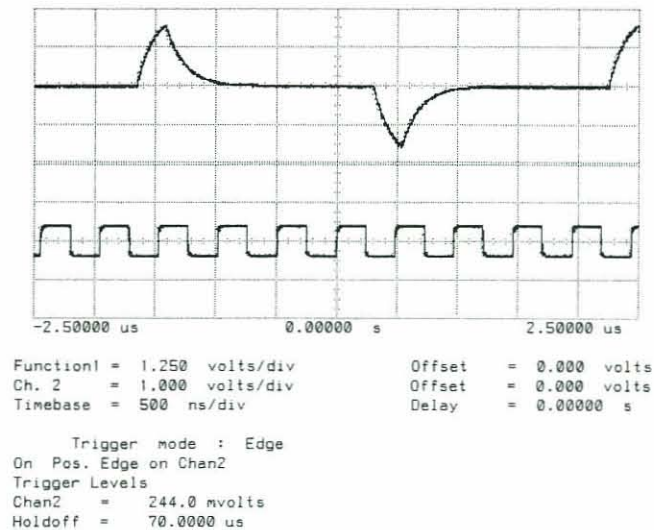

Figure 8-29 Pulse Shape Network Adjustment (Data Output)
11. Reselect Page 4 [JITTER TRANSFER FN] and set to Modulation [INTERNAL] . . . . [400HZ] with the Tx Jitter Amplitude P-P field reset to [0 REF]. Check that the Oscilloscope display is as shown in Figure 8-29 (adjust the pulse shape network to obtain the desired waveshape on channel A of the Oscilloscope).